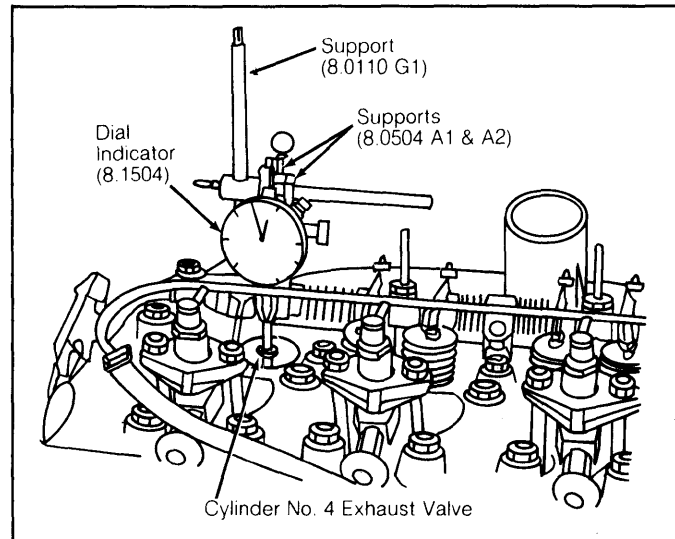

Fig. 7: Preparing Engine For Injection Pump Installation
5) On front rocker-valve cover stud, attach Support (8.0110 G1). Assemble Support (8.0504 A1) onto Support (8.0504 A2). Slide this assembly over top of Support (8.0110 G1) and attach Dial Indicator (8.1504). See Fig. 7. Place actuating foot of dial indicator on top of cylinder No. 4 exhaust valve.